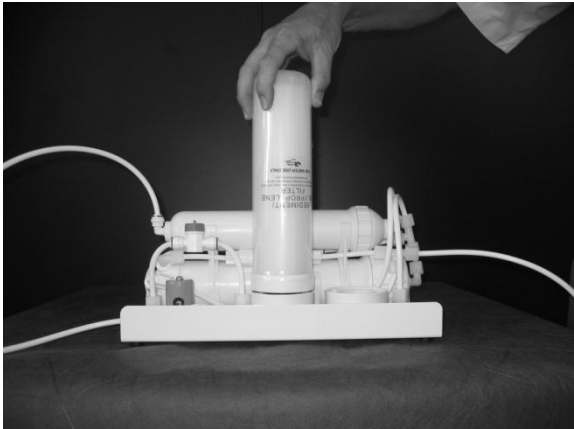

Fig. 3
4. Screw on the new filters, making sure you put each filter in the right position (the carbon block filter is fitted on the side, Fig. 3 & 4). Screw them on tightly but do not over-tighten.